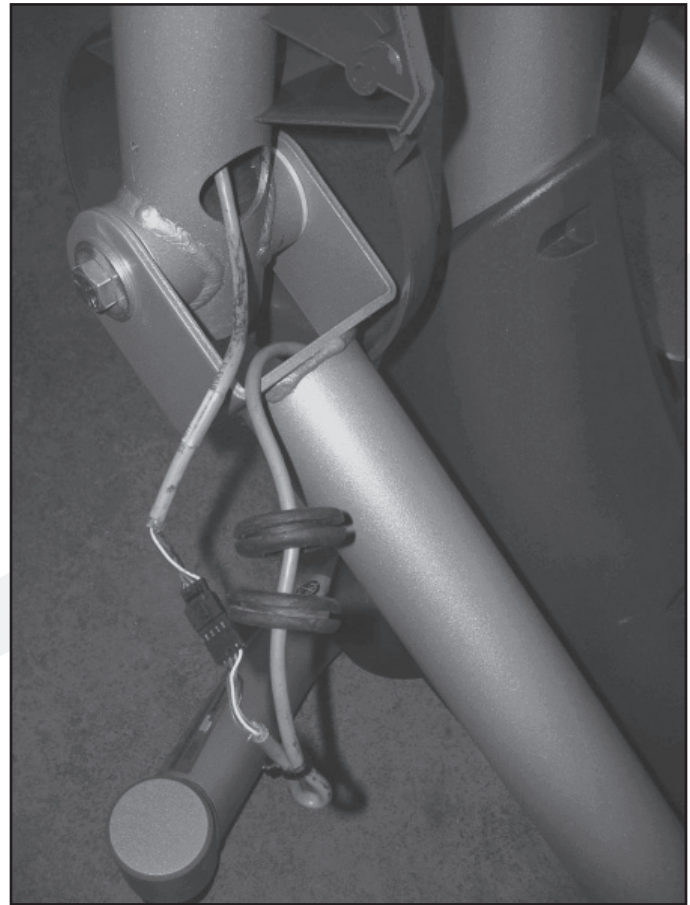

Figure 4
18. Using a 1 1/2" section of sheathed housing, make a loop in the sheathed portion of the footlink cable between the grommets and the end connector, and use a zip tie to secure the loop. See Figure 4.